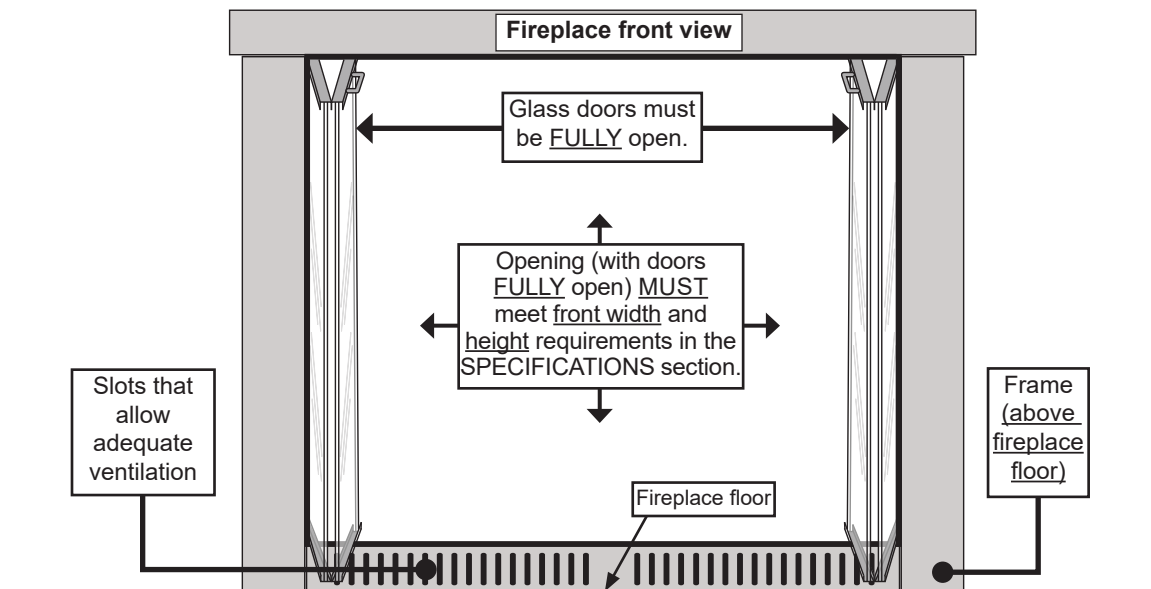

Fig. 10-1 Correct glass-doors frame setup, ventilation, and use (if applicable)
If this burner system is installed in a fireplace with glass doors, and the door frame bottom is greater than  $\frac{3}{4}$ " in height, the frame MUST have slots (above the fireplace floor) that allow adequate ventilation. This prevents airflow obstruction (to the fireplace floor). See Fig. 10-1.
**Important:** The opening (with doors fully open) MUST meet the minimum fireplace size front width and height requirements. See the SPECIFICATIONS section and Fig. 10-1.